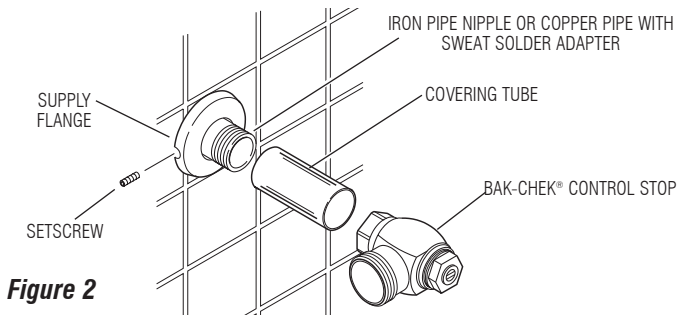

Figure 2
Step 1 — Install Control Stop (Figures 2 & 3)
Install the Sloan Bak-Chek Control Stop to the water supply line with the outlet positioned as required. Refer to Figure 2.